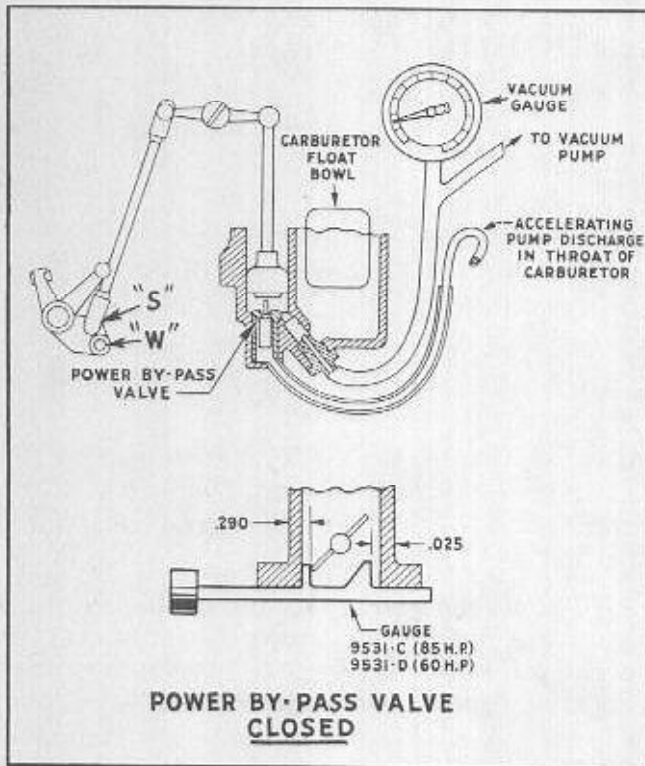
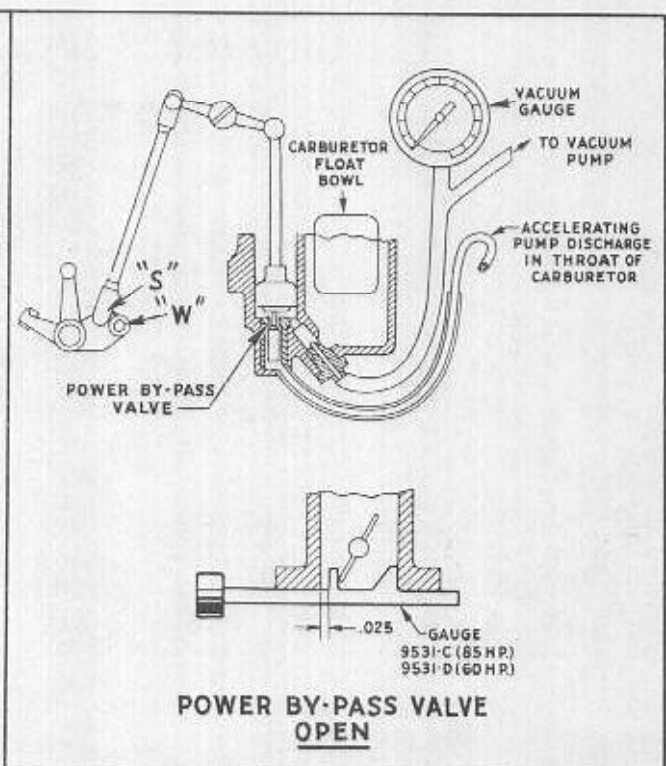
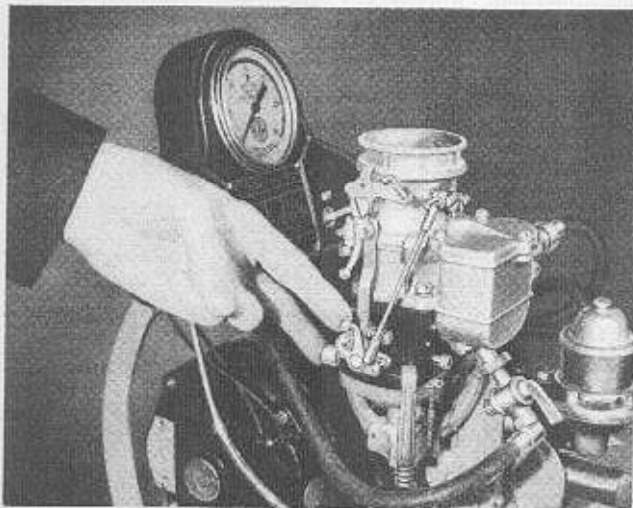

Fig. 33
Fig. 34
Fig. 35
**59** The power by pass valve (67-9594) must open correctly with respect to throttle plate position as shown in Figures 33 and 34. If it opens too soon, fuel economy will be reduced as much as 10 to 15%. If it opens too late there will be a loss of power at wide open throttle due to too lean a mixture.
**60** To check throttle position at which power by-pass valve opens, place carburetor on the #9350-A tester as shown in Fig. 35. The throttle plate position gauge (#9531-C for 85-HP, #9531-D for 60-HP) must be in position in the slot in test unit flange on which carburetor is placed. Throttle must be wide open when placing carburetor on test unit so edge of throttle plate will enter the #9531-C or D gauge as shown in Figs. 33 and 34.
**63** Connect hose (with valve at connector fitting) into bottom of float chamber as shown in Fig. 35. Drain plug (40-9562) and check valve (40-9573) have not yet been installed in carburetor, in order to permit this test to be made.
**64** Now start the motor of test unit and move throttle until position is found at which the vacuum reading drops to zero. The relationship between this position and the throttle plate position shown in Figures 33 and 34 will indicate how much the end of accelerating pump lever (40-9531) must be bent down to obtain proper adjustment of opening of power by-pass valve.
**67** When the accelerating pump lever (40-9531) has been set correctly, the power by-pass valve will be open with edge of throttle plate held tight against the #9531-C or D gauge. In this position the edge of throttle plate will be 0.290" from side of throttle throat, and there will be a vacuum reading as shown in Fig. 33.
Then, when the throttle position gauge #9531-C or D is pushed to opposite side of carburetor throat as shown in Fig. 34, the vacuum reading should drop to zero. In this position the edge of throttle plate will be 0.315" from side of throttle throat (0.290" plus the 0.025" movement permitted by the #9531-C or D gauge) as shown in Figures 33 and 34.
**68** The test outlined in paragraph 66 can be made very easily by pushing on the throttle lever with one finger and simultaneously pushing on the #9531-C or D gauge with another finger of the same hand as shown in Fig. 35.